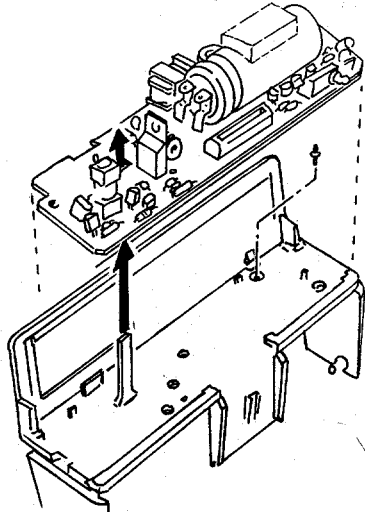

Fig. 7 Removing PC Board & Flashtube Assembly & Plunger
7. Remove the PC Board by lifting it straight up off the molded post on the Lower Housing (Fig. 7), being careful not to lose the small S10 Plunger from the base of the Lower Housing. Set Plunger aside.